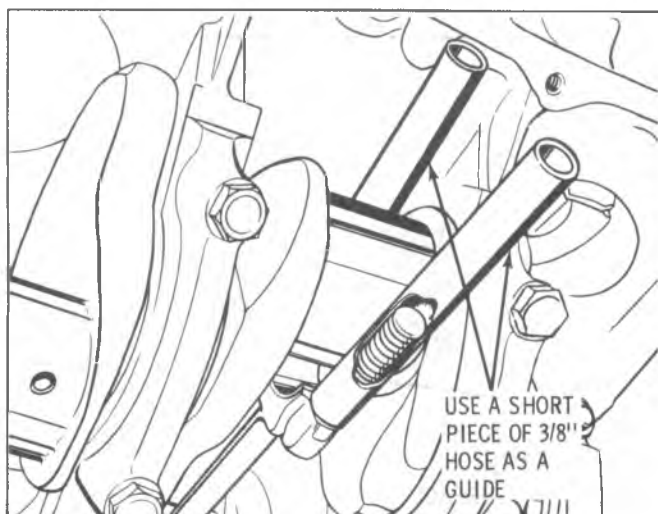

Fig. 6A6-62--Connecting Rod Bolt Guide
5. Install guide hose over threads of rod bolts. This to prevent damage to bearing journal and rod bolt threads. (Fig. 6A6-62).